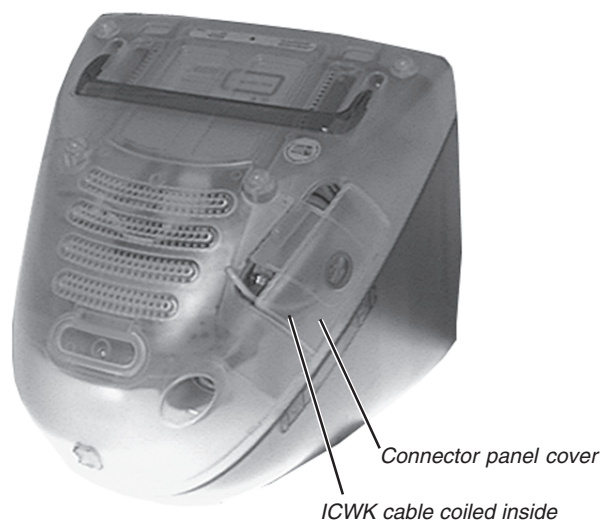

Figure 3b
9. Turn the iMAC right side up and reconnect the cables removed in step 2. The ICWK 9-pin connector/cable may be coiled and stored inside the connector panel cover as shown in Figure 3b.